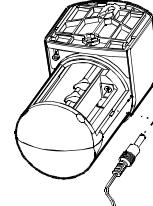

Fig. 10
2. Insert the adapter DC plug into the sensor socket. Fig. 10